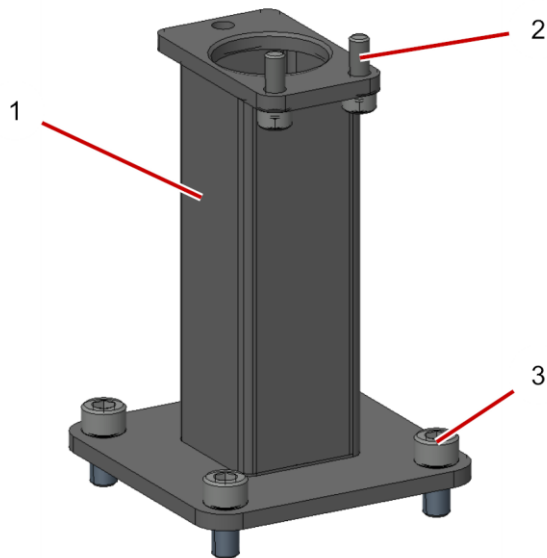

Fig. 5 Mount MESSBOI 25
- ▶ Use Fig. 5, 3 Allen screws to screw the mount to the table or winder.
- ▶ Install Allen screw Fig. 5, 2 into the threaded holes in the length measuring device.